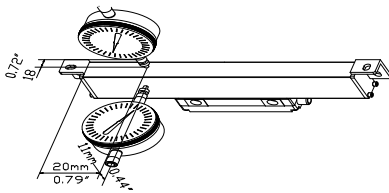
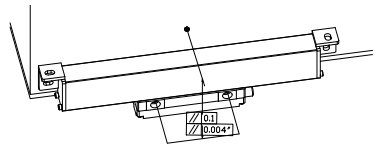

Figure 4.5
Figure 4.6
3. When you calibrate the parallelity of the body of the linear scale with level meter or other similar devices, the angle of the measuring head must be confined within  $\pm 30^\circ$  (based on the measuring head of the level meter being parallel with the level meter itself). As for the angle, the smaller, the better. If you use the decimal meter (Figure 4.5, 4.6, 4.8, 4.9), you must make the bar of the measuring head perpendicular with the surface to be measured, only in this case can ensure the actual measuring precision.
9. Based on the center of the linear scale, you must take the point of symmetry of the two sides as the criteria point when adjusting the height and level of the linear scale. As to any linear scale, whenever you perform the horizontal adjustment or vertical adjustment, for the body of the linear scale itself, the range of the adjustment can't individually exceed 20mm from the end of the meter to the body of the scale (Figure4.5). As for the Read Head, perform the adjustment within the two square standard sides (Figure 4.6)
- ◆ The parallelity of the read-head referring to the worktable is less than 0.10mm, and the maximum parallelity can't exceed 0.15mm (Figure 4.6).